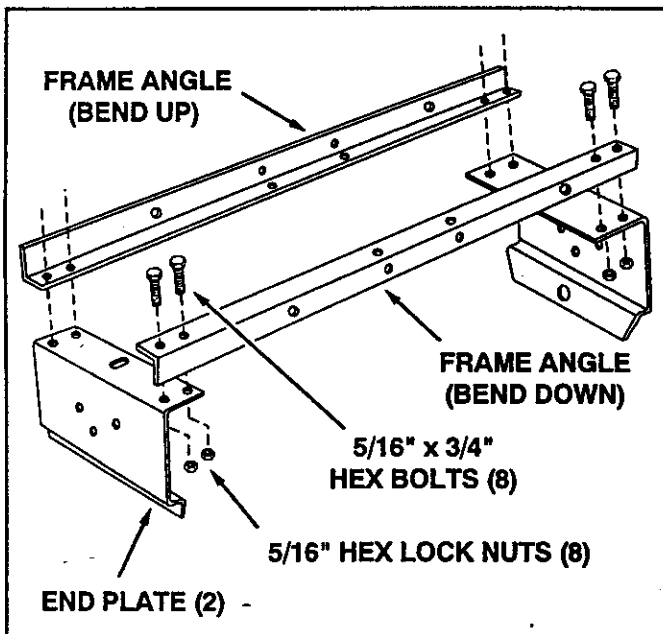

FIGURE 1
- Assemble the two frame angles (one with the bend up and the other with the bend down) to the two end plates using eight 5/16" x 3/4" hex bolts and eight 5/16" hex lock nuts. Make sure that the frame is squared up, and then **tighten**. See figure 1.